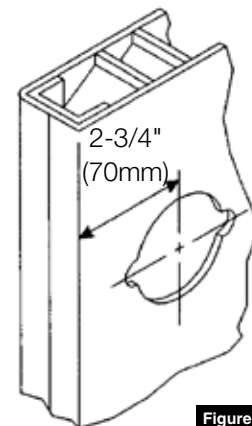

Figure 2
1. Extend horizontal and vertical lines of cut-out. (Figure 2)